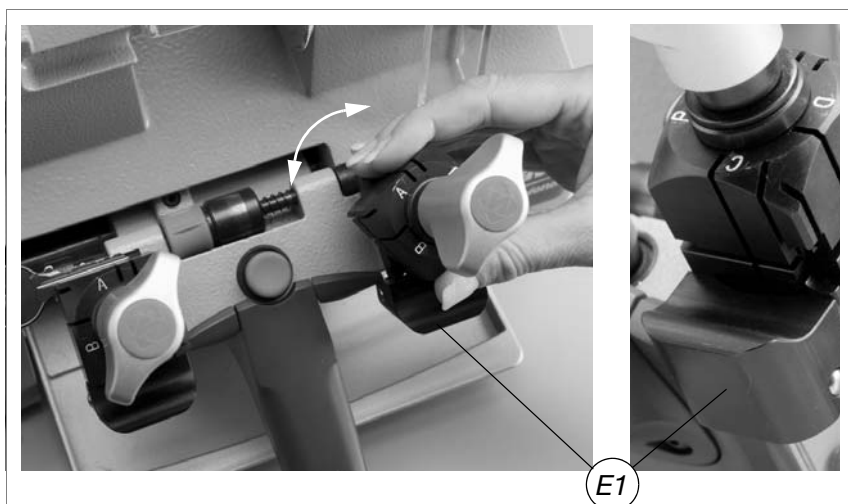

Fig. 19
With loosened handle (F) a light rotation of the clamp is sufficient (gripping by the 2 jaws) to turn it to the required side. Alignment is automatic and guaranteed by the mobile pressure device (E1) (*) (fig.19).